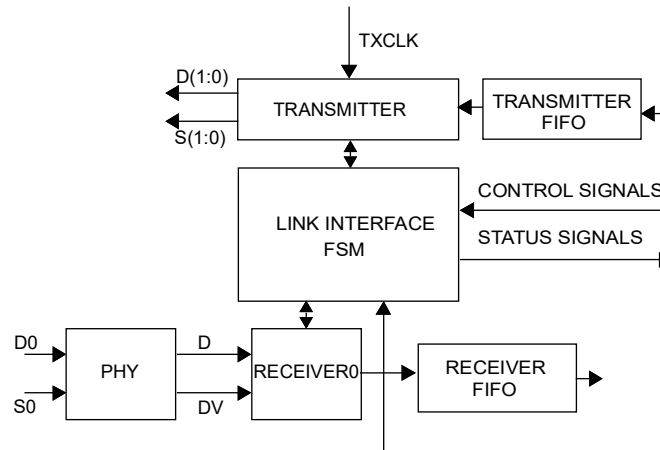

Figure 75. Block diagram
33.3.1 Each SpaceWire port comprises a SpaceWire codec that implements an encoder-decoder compliant to ECSS-E-ST-50-12C [SPW]. The interface to the router's switch matrix consists of a transmit FIFO, receive FIFO, and control and status signals, see Figure 75. The transmit and receive FIFOs can both store up to 64 N-chars. All the configuration parameters and status information for the ports are accessible through the router's configuration port, either through RMAP or AMBA AHB (see section 33.6).